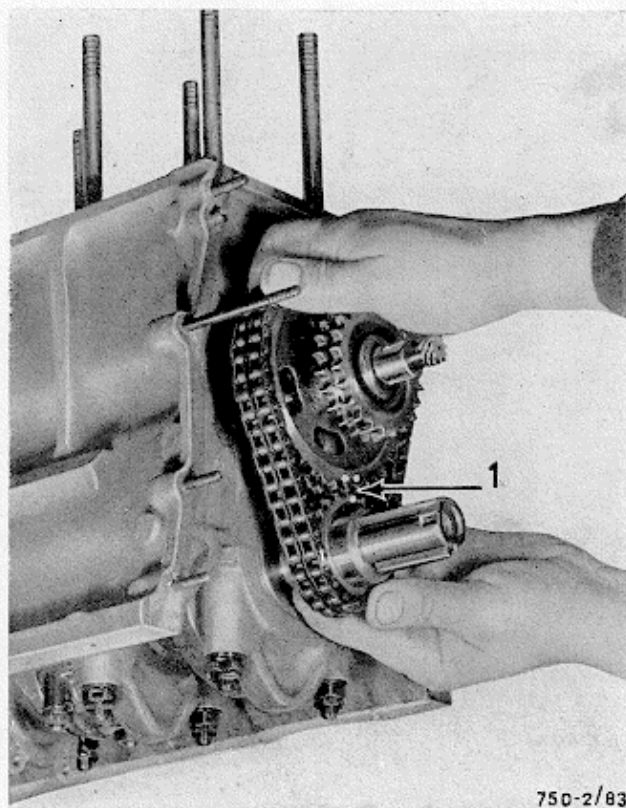
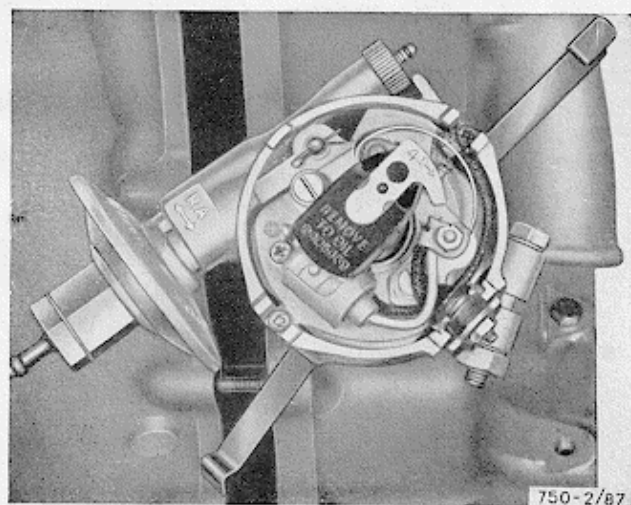

Fig. 83 - Dismantling the driving and reduction chain and sprockets
Fig. 87 - Position of the distributor body and of the rotating brush before mounting the front cover on the crankcase
- 6) Remove the sprockets (fig. 83) by sliding them off together with the chain.
- 3) With the chain-driving sprockets in the position shown in fig. 83, mount the distributor on the cover and, after having positioned it as shown in fig. 87, lock the nut holding it to the engine, then turn the pump shaft so that the rotating brush in the distributor assumes the position also shown in fig. 87.
- 10) Remove the intermediate sprockets together with the chain as shown in fig. 83.